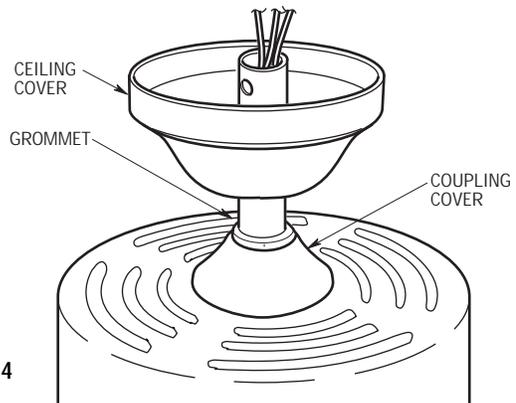

Figure 4
5. Make sure the grommet is properly installed in the coupling cover, then slide the coupling cover on the downrod until it rests on the motor housing. Place the ceiling cover over the downrod. Be sure that the ceiling cover and the coupling cover are both oriented correctly (Figure 4).